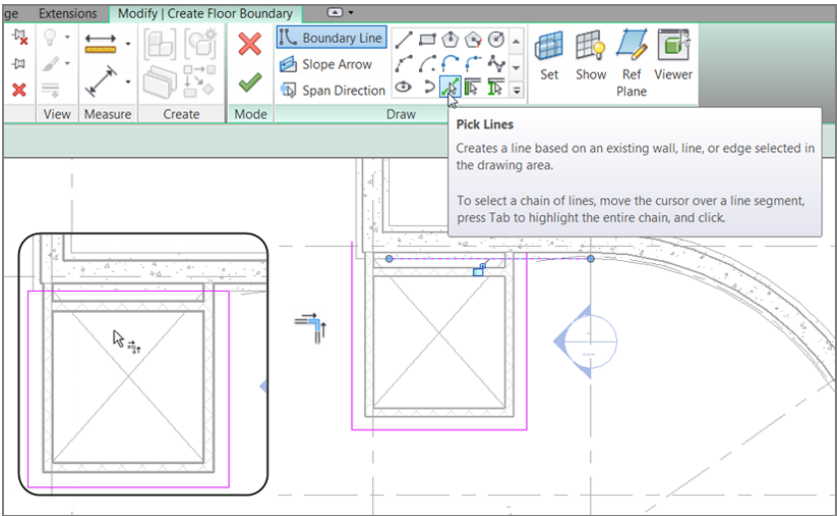

FIGURE 8.64: Trimming all the corners
2. Trim any overlapping corners, as shown in Figure 8.64.